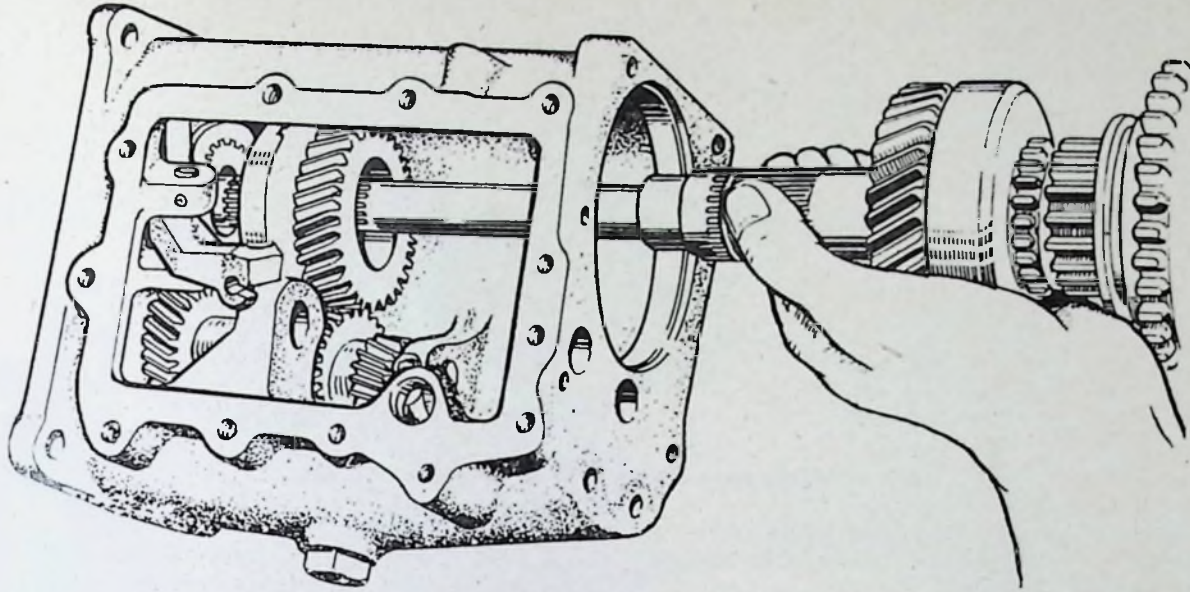

FIG. 47.—Entering mainshaft into intermediate gear and sliding dog hub.
Insert mainshaft assembly through rear of casing, entering it through the intermediate gear and hub (Fig. 47). When fully home, fit circlip (40).